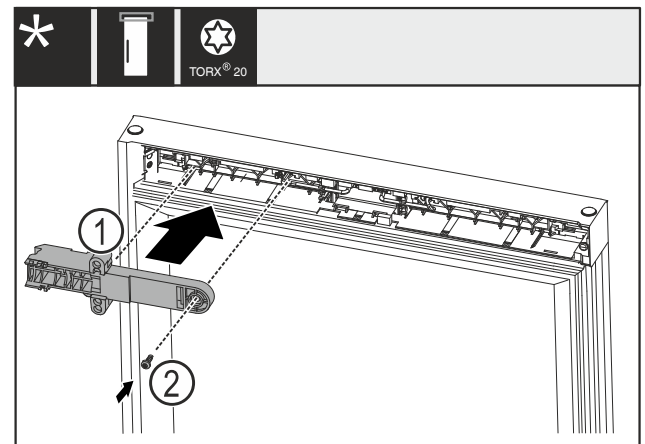

Fig. 21
- Turn the lock bracket retainer Fig. 21 (1) by 180° and mount it to the opposite side.
- Fasten the lock bracket retainer Fig. 21 (1) with the screw Fig. 21 (2).